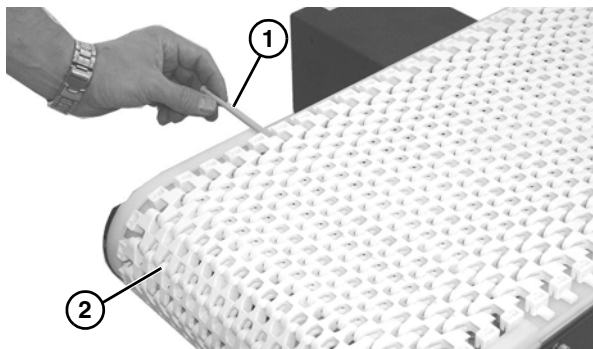

Figure 26
1. Use a punch and hammer to push the belt rod (**Figure 26, item 1**) out by striking the rod end opposite the retaining head.
2. Slide the old belt (**Figure 26, item 2**) off the conveyor frame.